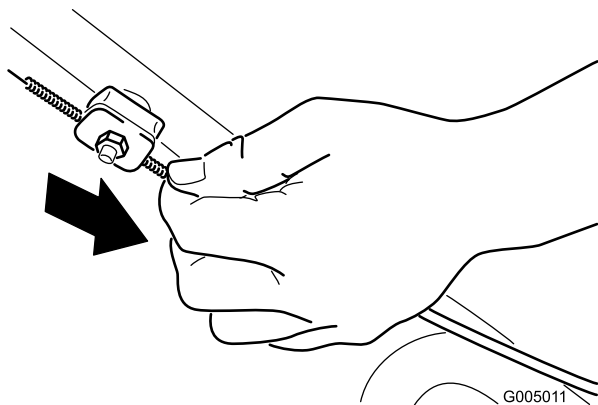

Figure 22
2. Pull down the cable jacket (toward the machine) until there is no slack in the cable (Figure 22).